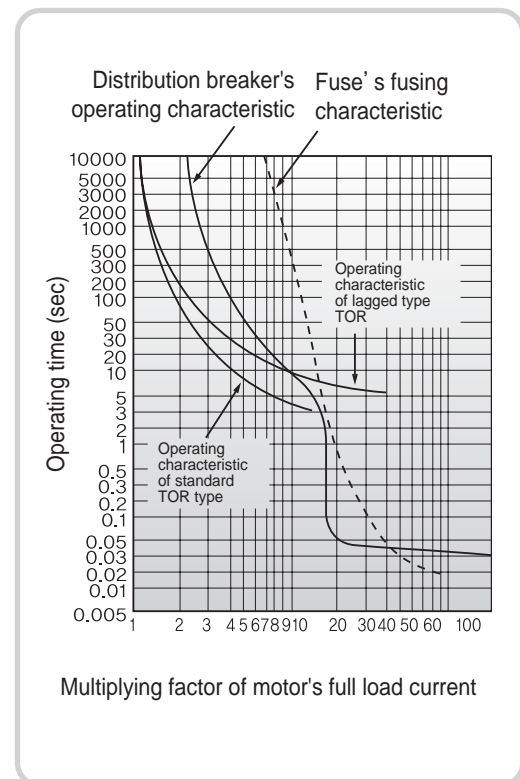

Fig. 55. TOR and distribution breaker or protection cooperation of fuse
3. Large motor protection cooperation of starting current It is easy to take protection cooperation with fuse or distribution breaker when applying to large motor of starting current, and protection cooperation of motor and short circuit including circuit accident can be acquired. (refer to fig. 55)
Enough preparation is required for using TOR for motor protection with occasional driving. It is difficult to expect optimized protection about motor with occasional driving by only TOR when there is big difference between thermal time constants of motor and TOR, it is necessary to find solution about each case and apply it. It is good to select control current based on motor's continuous rating when protection is prior with limiting somewhat motor's available performance, it is necessary to control large control current with taking a little loss of overload protection when you want to take advantage of maximum short-term output power. Time constant of standard TOR in this case, but it is not necessary to select large control current with using lagged type TOR. Selection of TOR's control current requires different preparation for showing motor's performance enough when intermittence is irregular, but proper selection is possible when it's periodic as following. As a reference, fig 55 shows heater temperature increase of TOR when occasional driving.